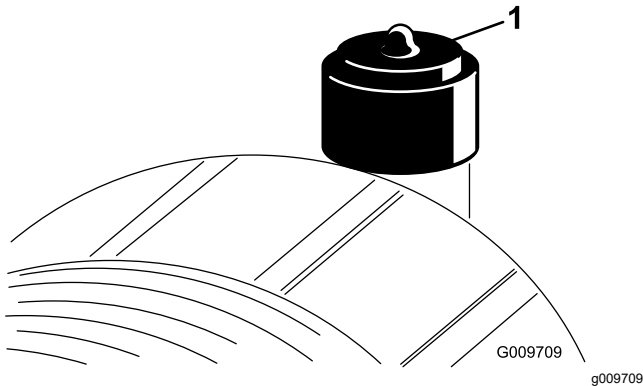

Figure 69
Service the air cleaner filter only when the service indicator (Figure 69) requires it. Changing the air filter before it is necessary only increases the chance of dirt entering the engine when the filter is removed.
6. Reset the indicator (Figure 69) if it shows red.